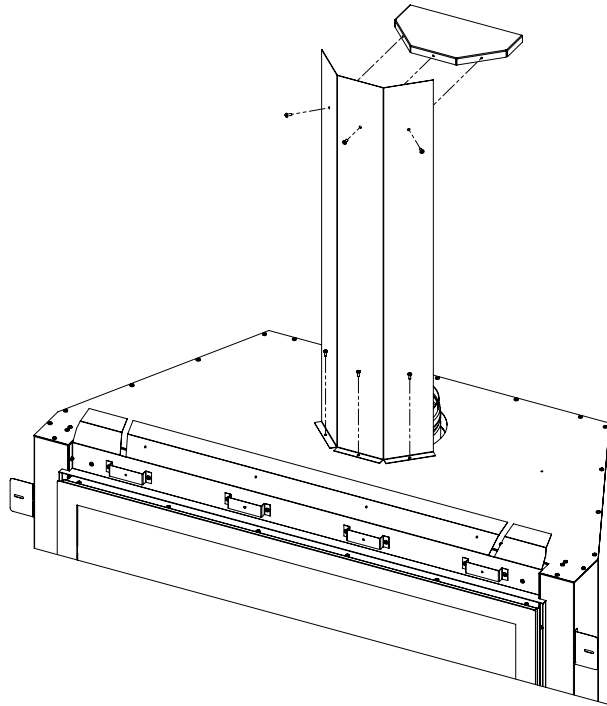

Figure 41: Vent Shields
All vent configurations require installation of the vertical vent heat shield. Remove the three (3) T-20 screws from their respective locations and use to secure the shield in position (see Figure 41).
The horizontal vent heat shield is only required for minimum vertical rise vent configurations. Use three (3) supplied T-20 screws to secure it to the vertical vent heat shield (see Figure 41).